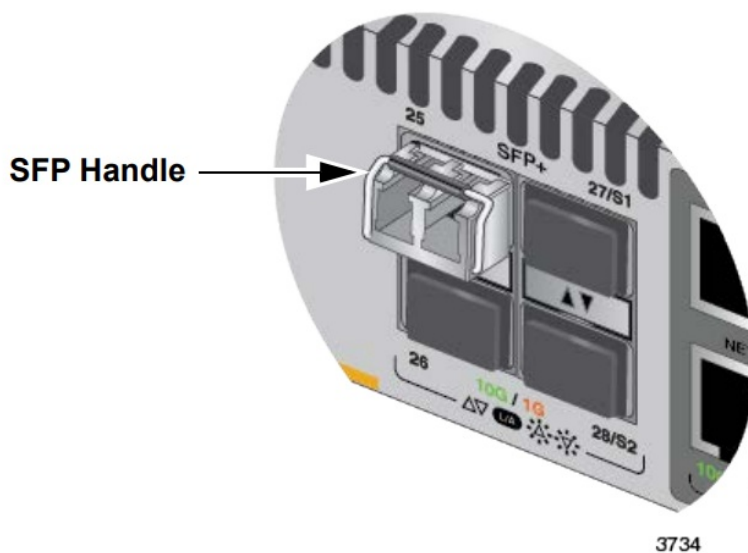

Figure 75. Positioning the SFP or SFP+ Handle in the Upright Position
6. Verify the position of the handle on the transceiver. If the transceiver is in a top slot, the handle should be in the upright position, as shown in Figure 75 on page 140. If the transceiver is in a bottom slot, the handle should be in the down position.